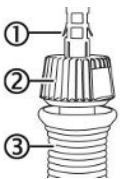

Fig. 17: Soldering tip proper mounting
- Keep a correct distance between the knurled sleeve [2] and the soldering iron [3], as shown in Fig. 17.
Always touch only the knurled plastic part! ([2] in Figure 17)